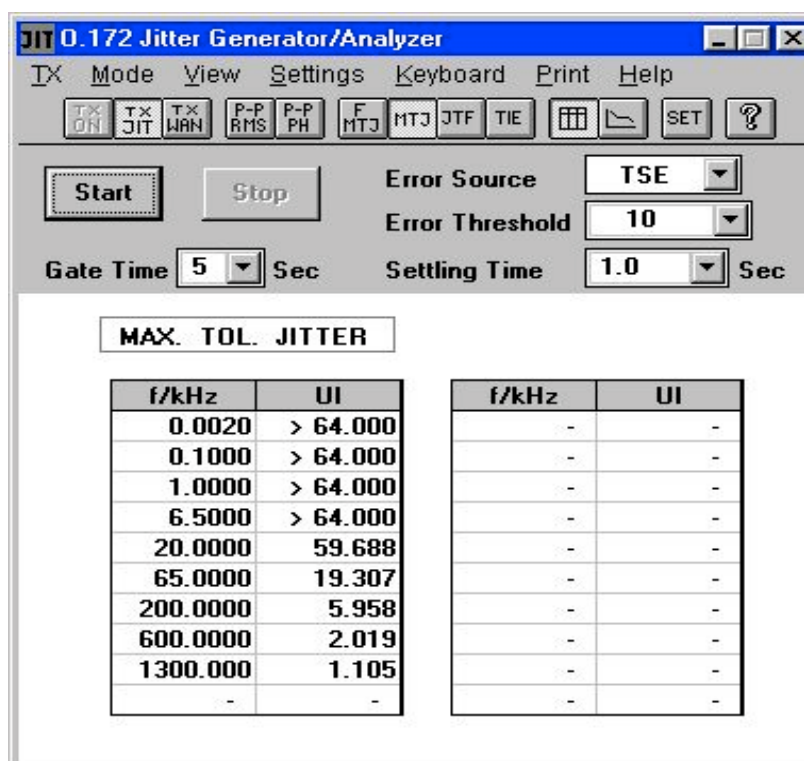

Fig.4 Display of MTJ Test results in Table Format
1. Table format (Refer fig. 4)